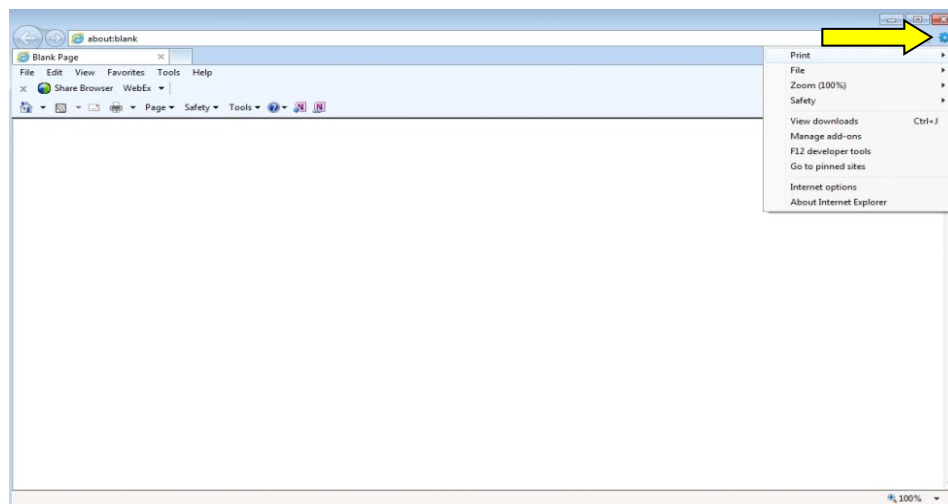

Figure 5-10: Gear menu in Internet Explorer 9
- a. In Internet Explorer, click the **Gear** icon to expand the menu, as shown in Figure 5-10.